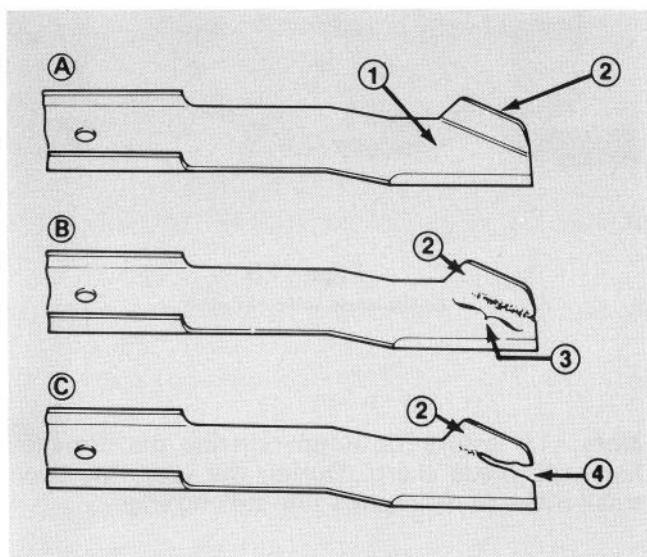

Figure 34
4. Examine cutting ends of blade carefully, especially where the flat and curved parts of the blade meet (Fig. 34, A). Since sand and abrasive material can wear away the metal that connects the flat and curved parts of the blade, check the blade before using the mower. If any wear is noticed (Fig. 34, B), replace the blade: refer to Sharpening or Replacing Cutter Blade, page 16.
If the blade is allowed to wear, a slot will form between the sail and flat part of the blade (Fig. 34, C). Eventually, a piece of the blade may break off and be thrown from under the housing, possibly resulting in serious injury to yourself or bystander.